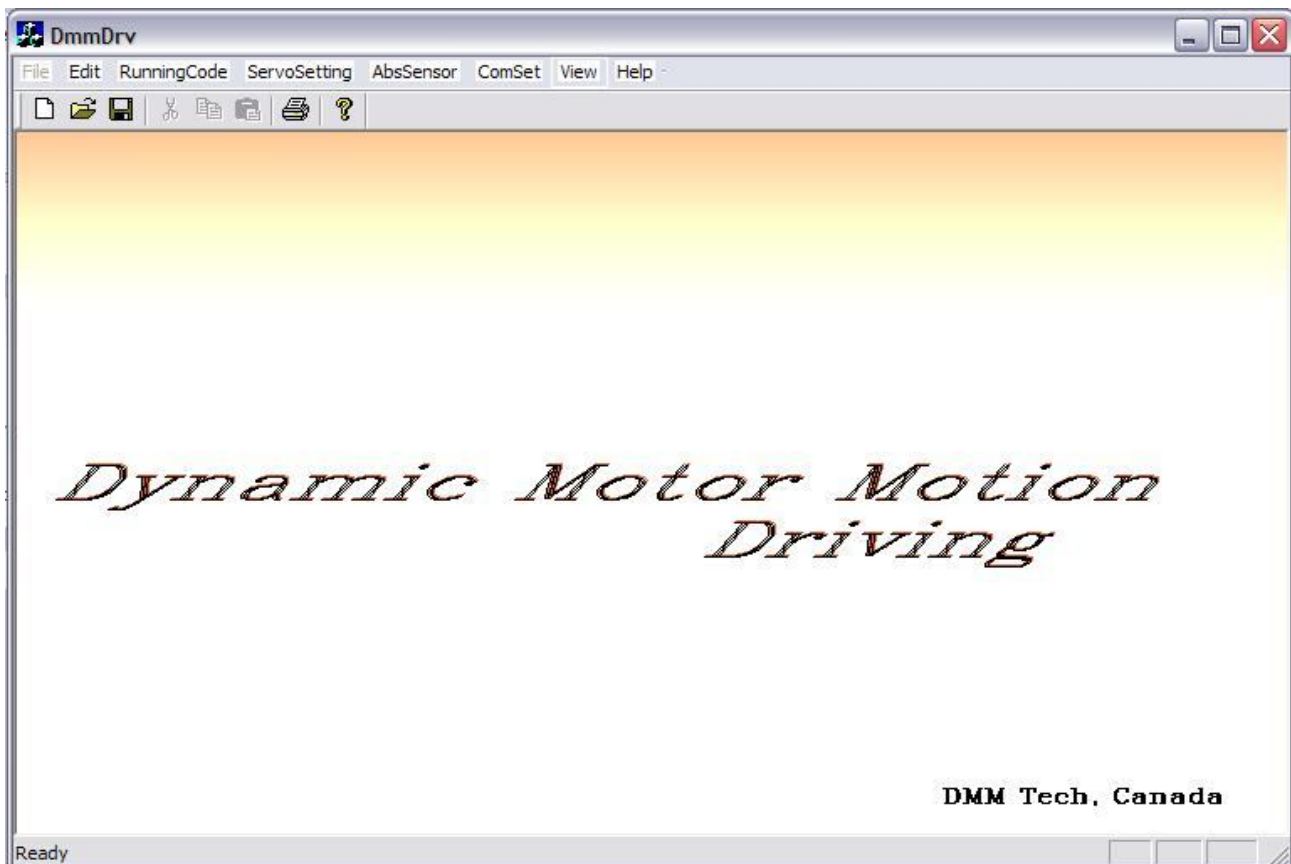
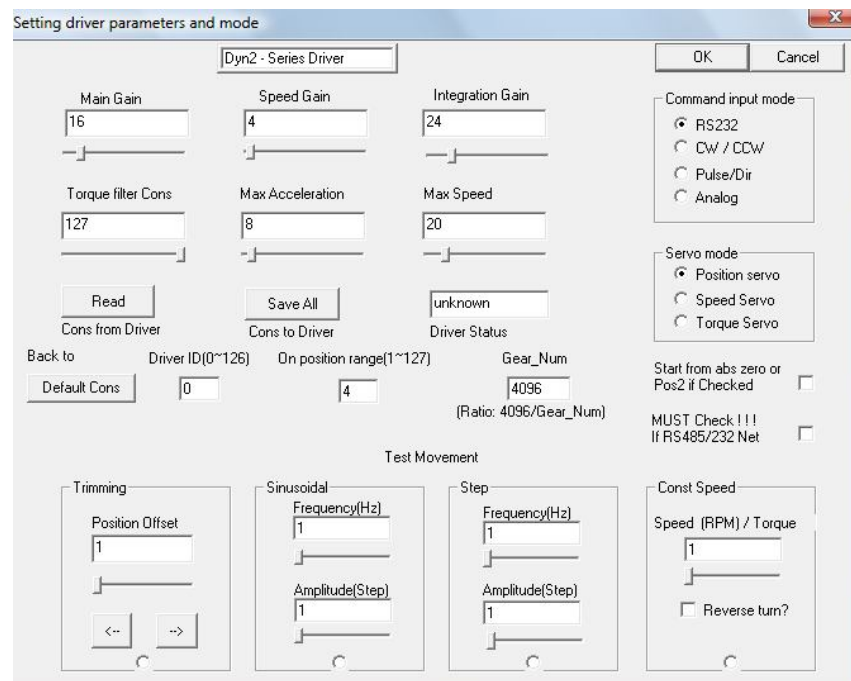
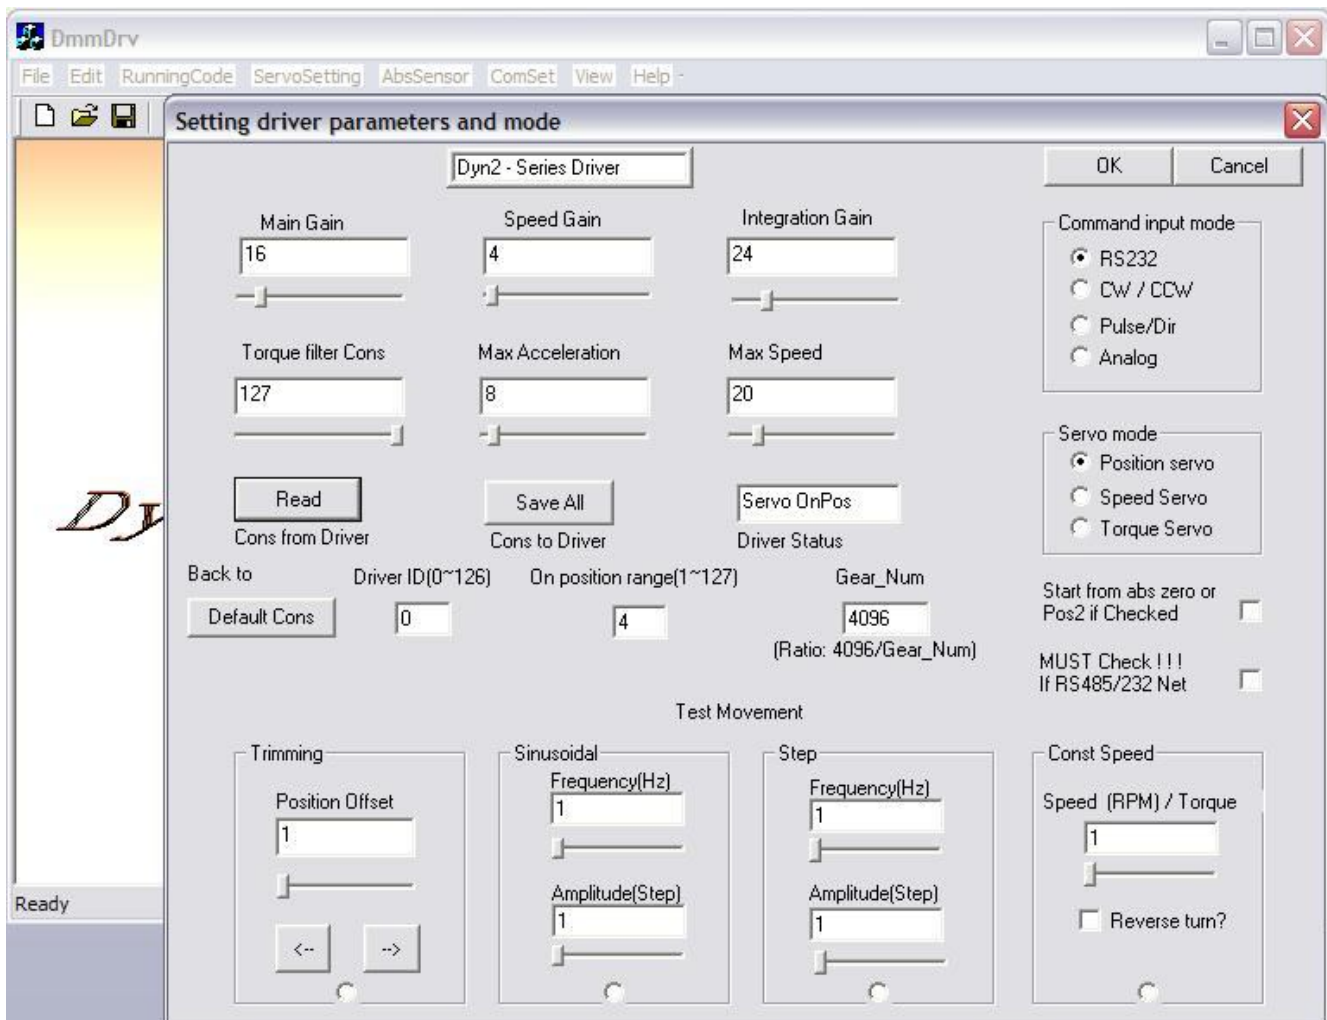

Figure 1.0
Figure 1.1
Figure 5.0
From Figure 1.0 the various toolbars at the top of the screen are explained below:
Launch the DmmDrv.exe. Select the ComSet option from Figure 1.0 and select Com Port to indicate which RS232 port the user's computer is communicating through (COM1 or COM2).
- Step 5: In the DmmDrv 's (Figure 1.0) ComSet setting, select the port from step 4.
From Figure 1.0, select ServoSetting and click on Dyn2-Driver, the *setting driver parameters and mode* dialog box (Figure 5.0 below) will now be selected.
5.2 Setting Driver Parameters and Mode Menu (Figure 5.0)
Step 1: From Figure 1.0, select *ServoSetting* and click on *Dyn2-Driver*, the “*Setting driver parameters and mode*” dialog box (Figure 1.1) will now be selected.
Select "Edit" from Figure 1.0 and click on Program1~5.